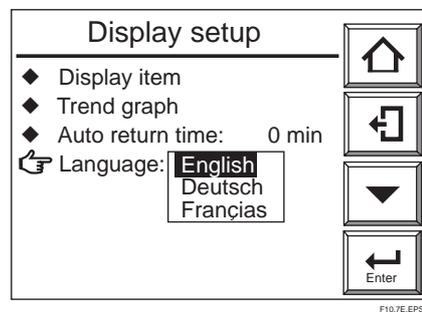

Figure 10.19 Manual Calibration Display
- (1) When the display shown in Figure 10.19 appears during calibration, open the zero gas flow setting valve of the flow setting unit and adjust the flowrate to 600 ± 60 ml/min. To rotate the valve shaft if the valve has a lock nut, loosen the lock nut and slowly turn it counterclockwise. To check the flowrate, monitor the calibration gas flow meter.